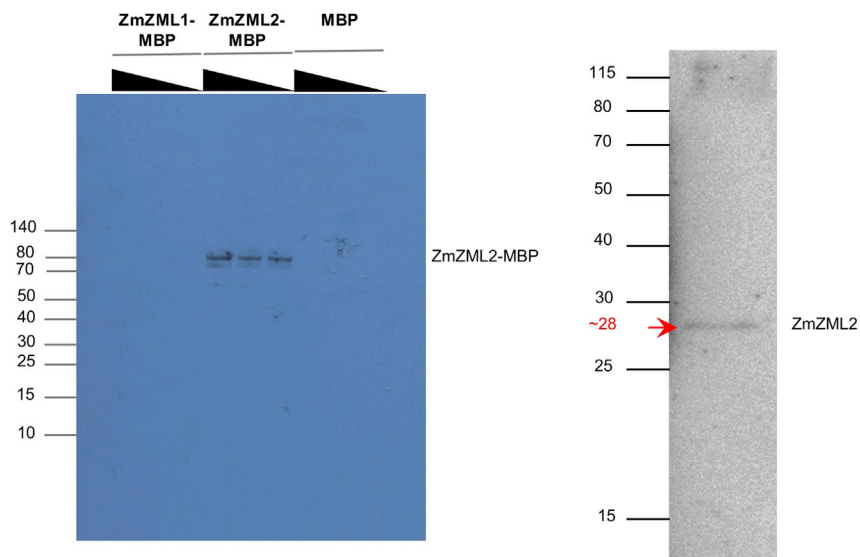

Figure 4. Immuno-detection of ZmZML2 using the purified antibody raised against this protein
30. Perform a western blot using recombinant protein and total plant protein extract to verify the quality of the different fractions of the purified antibody (Figure 4).